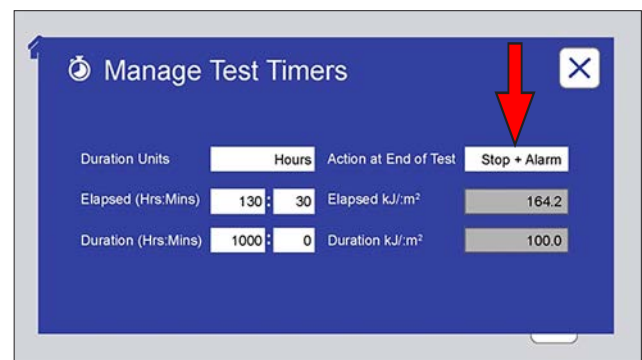
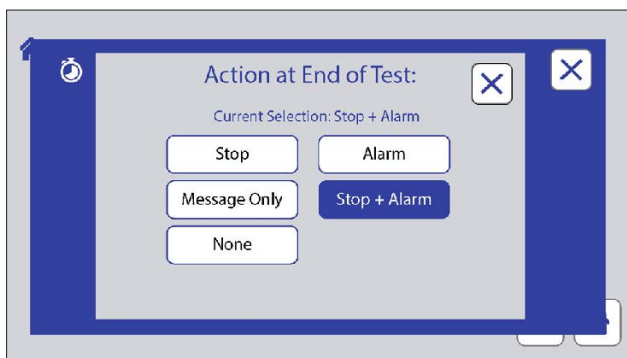

Figure 11.5b: Manage Test Timers screen. Touch the Action at End of Test text box to specify the action.
Figure 11.5c: Action at End of Test screen. Touch an action button to select that action.
1. Specify what action the tester should perform at the end of a test (Figure 11.5b and Figure 11.5c).